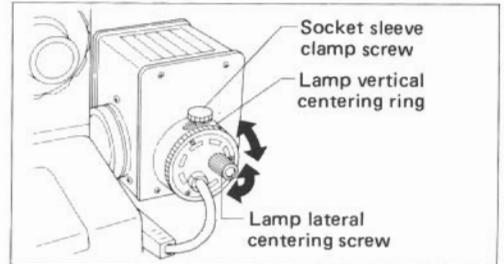
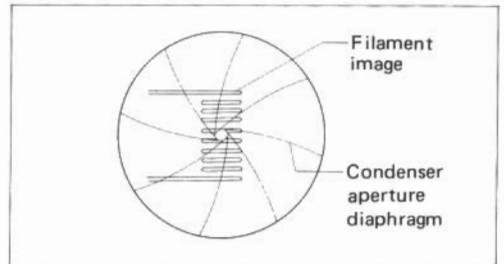

Fig. 6
Fig. 7
- 7) Release the socket sleeve clamp screw (Fig. 6). Turning the lamp lateral centering screw and vertical centering ring, bring the filament image to the center, as shown in Fig. 7.